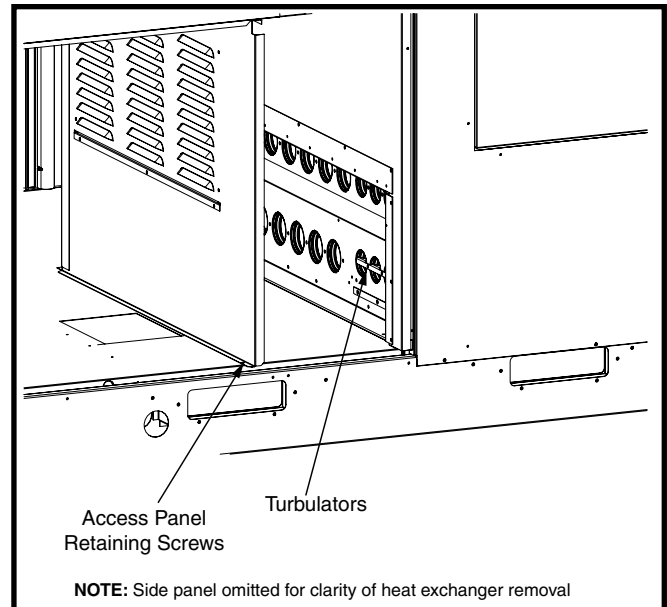

Figure 11. Heat Exchanger Removal
It is recommended that the burners be inspected and cleaned periodically (if required) by a qualified technician annually to ensure continued safe operation. Particular attention must be given to identify deterioration from corrosion or other sources. If the burners must be cleaned, follow the steps below. See Figure 11 \(page 18\) for more detail.
3. Disconnect the wires from the gas valve, ignitor, and flame sensor. See Figure 11 \(page 18\) for wire locations.
1. Remove 3 screws securing the compressor access door. See Figure 11.